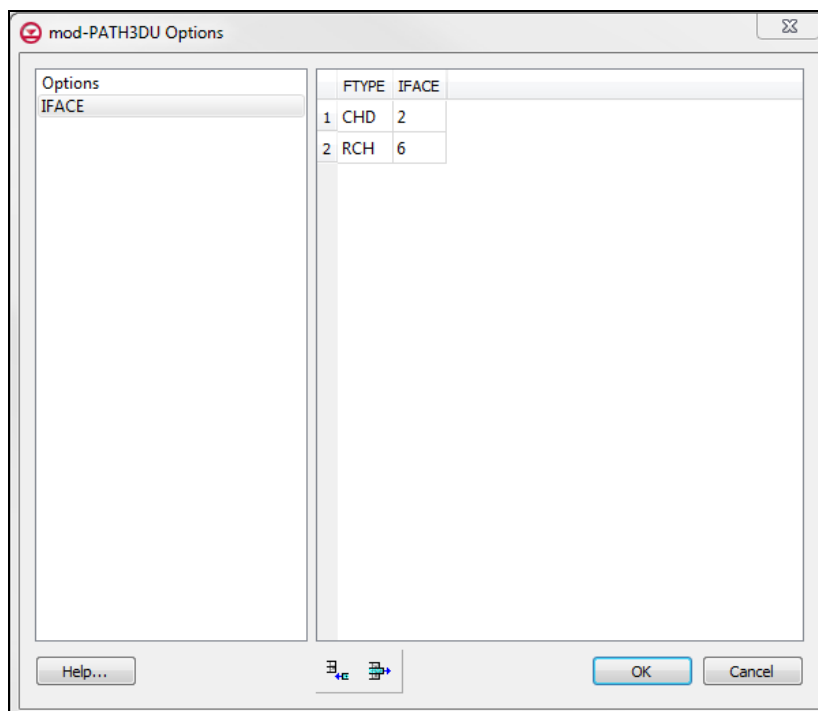

Figure 4 IFACE values.
1. Select “IFACE” from the list on the left (Figure 4).
This table (Figure 4) is how IFACE values are specified. Notice there are two rows listed in the table, one for *CHD* and one for *RCH*. The names correspond to the names found in the cell to cell flow (CCF) file. GMS adds these two items automatically with all new mod-PATH3DU simulations. If these types of boundary conditions were not being used, mod-PATH3DU would ignore the IFACE values listed in the table, so it would not be necessary to delete them.